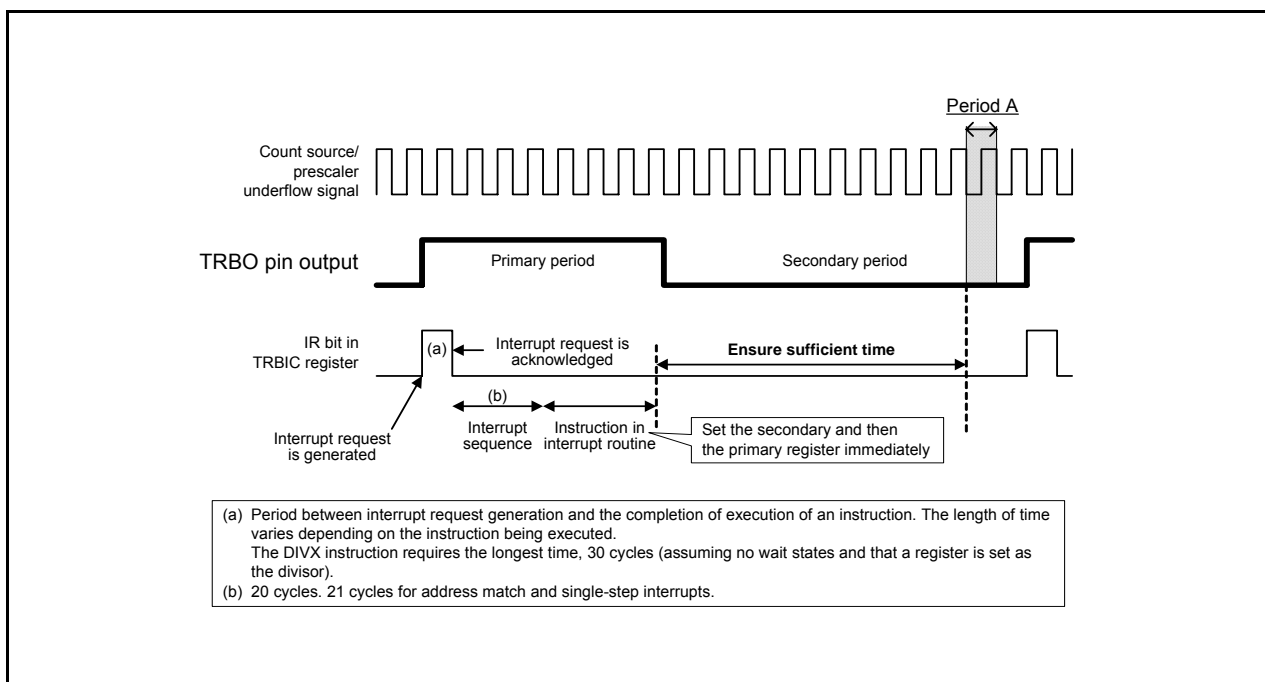

Figure 14.24 Workaround Example (a) When Timer RB interrupt is Used
- (1) To write to registers TRBPRES and TRBPR during count operation (TCSTF bit is set to 1), note the following points:
- (2) To change registers TRBPRES and TRBPR during count operation (TCSTF bit is set to 1), synchronize the TRBO output cycle using a timer RB interrupt, etc. This operation should be performed only once in the same output cycle. Also, make sure that writing to the TRBPR register does not occur during period A shown in Figures 14.24 and 14.25.
As shown in Figure 14.24, write to registers TRBSC and TRBPR in the timer RB interrupt routine. These write operations must be completed by the beginning of period A.